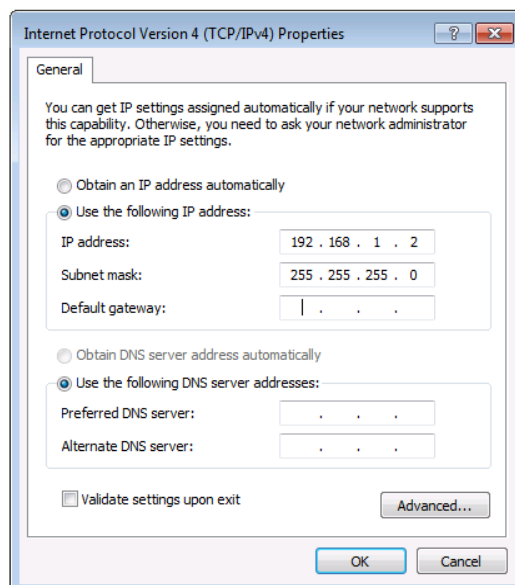

Figure 6: Internet Protocol Properties Window
6. Select **Use the following IP Address** for static IP addressing and fill in the IP address and Subnet mask as shown in Figure 6.